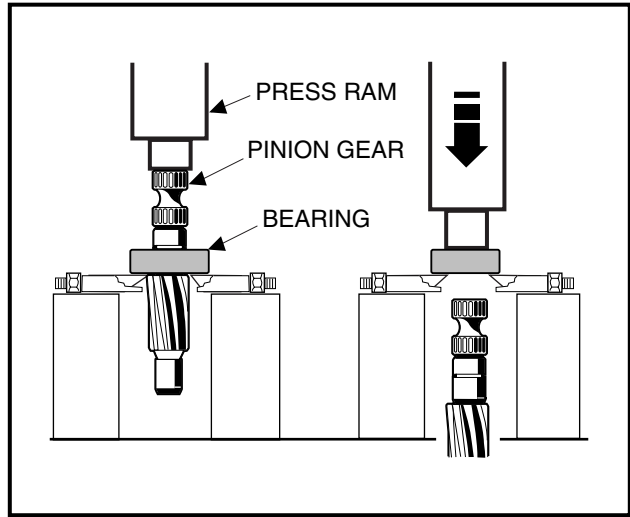
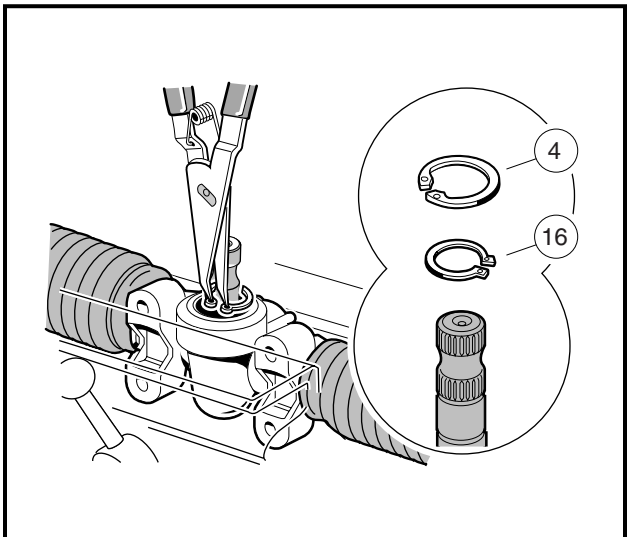

Figure 7-13 Remove Bearing from Pinion
Figure 7-15 Pinion Snap Rings
8. Remove the snap ring (**Figure 7-15, Page 7-8**).
11. If the ball bearing (15) (**Figure 7-20, Page 7-11**) has been damaged, remove the c-type stop ring (16) (**Figure 7-15, Page 7-8**) and press the bearing off (**Figure 7-13, Page 7-8**).